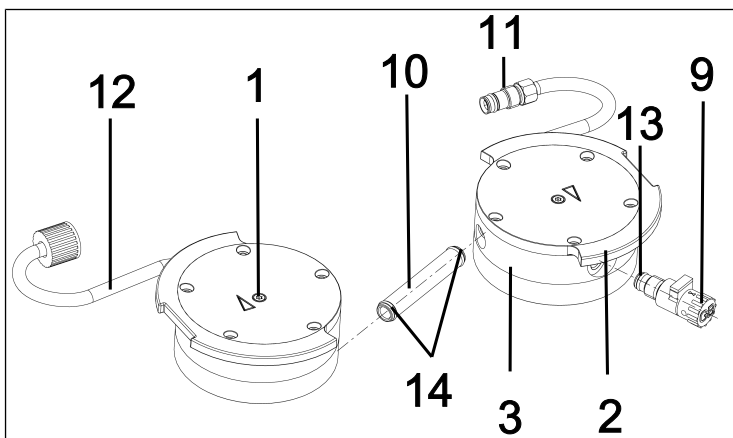

Fig.28: Changing O-rings
2. Pull the connection tube (10/Fig. 28) out of the head plate (3).
3. Replace the two O-rings (**14**) on the connection tube (**10**/Fig. 28).
i If the O-rings (**14**) cannot be taken out of the connection tube (**10**/Fig. 28), press them together gently and remove them with pliers if necessary.
6. Unscrew the gas ballast (**9**/Fig. 28) from the head plate (**3**).
7. Replace the O-ring (**13**) on the gas ballast (**9**/Fig. 28).
8. Screw the gas ballast (**9**/Fig. 28) into the corresponding head plate (**3**) as far as it will go. Then turn it back again until the surface is oriented upwards.
7. Insert the connection tube (**10**/Fig. 28) back into both head plates (**3**).